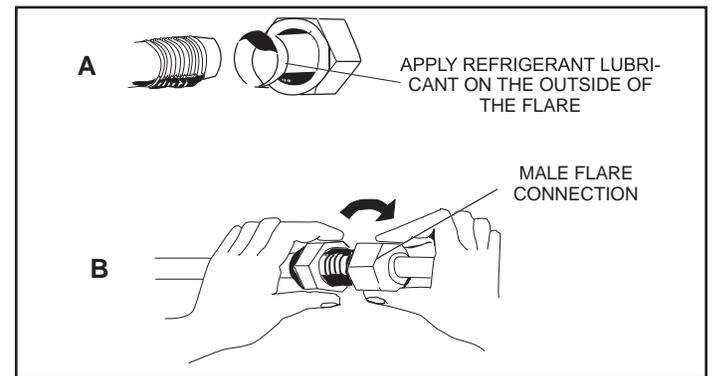

Figure 3. Making Connections (Male to Female Connection)
5. Apply recommended HFC-410A refrigerant lubricant to the outside of the flared refrigerant lines (figure 3-A).
6. Align the threaded connections with the flared refrigerant lines. Tighten the flare nuts lightly at first to obtain a smooth match (figure 3-B).